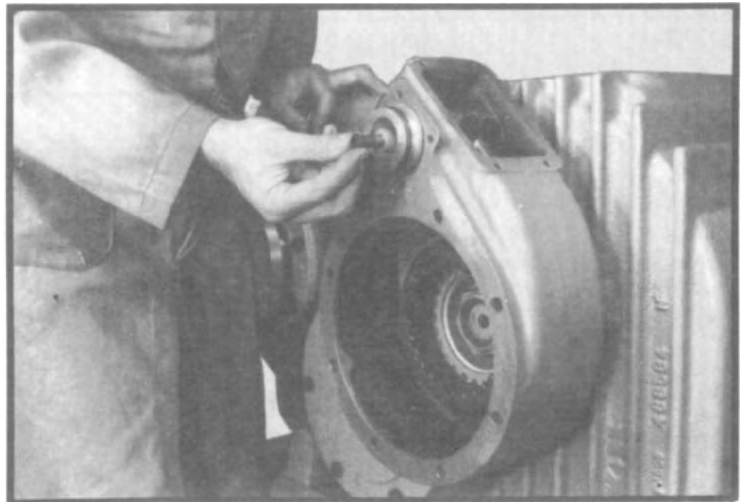

Fig. 179
6. Place small o-ring over threads of shift shaft. (See fig. 179.)